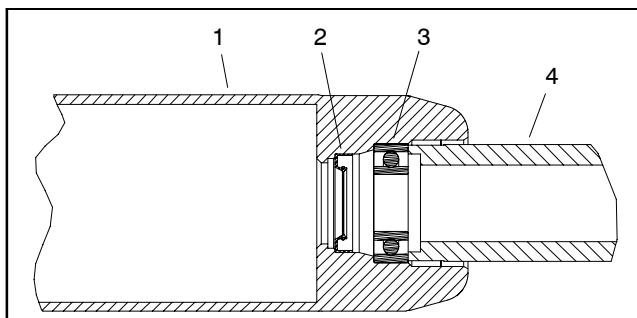

Figure 9
A. Position a new bearing into one end of roller tube. Use bearing/outer seal tool (see Special Tools) with a soft face hammer to fully seat bearing against roller shoulder (Fig. 9). After bearing installation, make sure that it rotates freely with no binding.